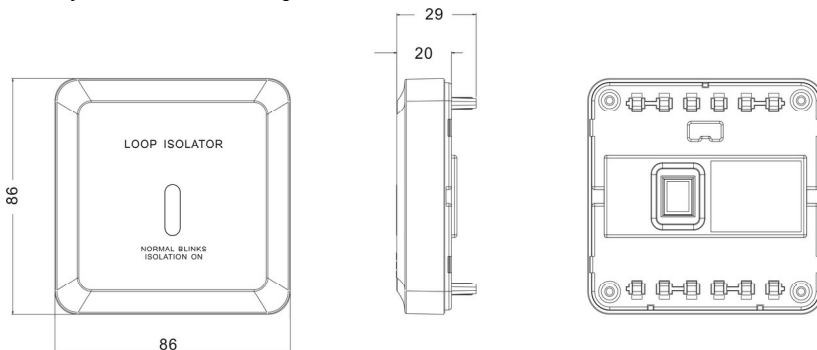

Fig. 1 Main part
1. Main Body of a EA-IS shown in Fig.1.